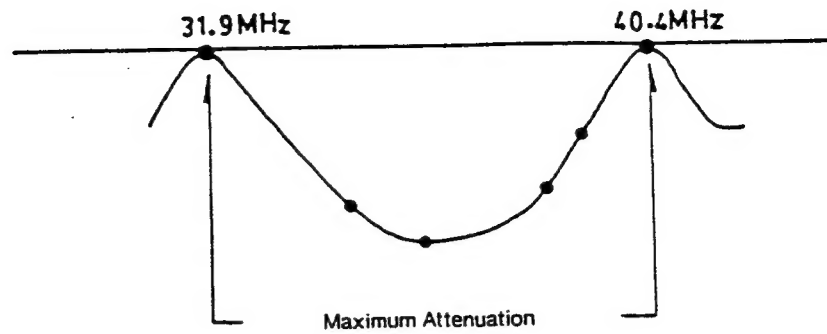

Fig. 10. 31.9, 40.4MHz Traps Resoponse Curve
4. Tune T105 for maximum attenuation of 31.9MHz as shown in Fig.10.
5. Tune T106 for maximum attenuation of 40.4MHz as shown in Fig.10.